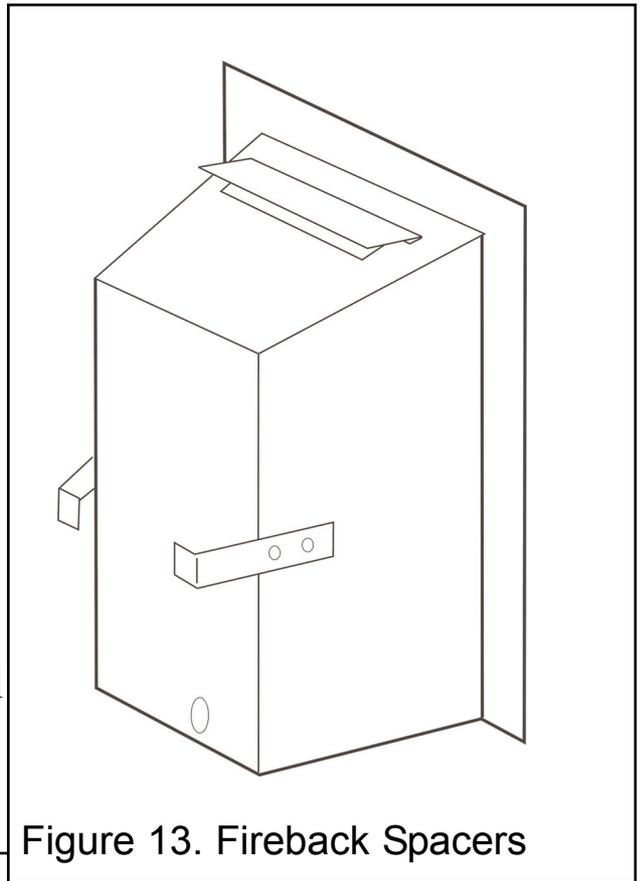

Figure 13. Fireback Spacers
13. The appliance is supplied with two fireback spacers. **Do not fit the fireback spacers if the fire is to be installed into a precast or clay flue block system as in section 4.2.3.** These should extend backwards to ensure sufficient clearance from the back of the fireplace. Remove the label and retaining screws from the rear sides of the hotbox. Position the fireback spacer as shown in figure 13. Secure the fireback spacers using the screws removed previously and the two supplied with the fire.